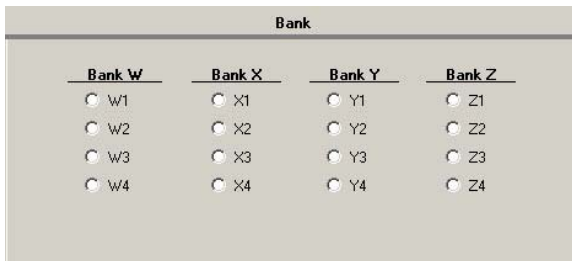

FIG. 63 Bank Enable options
2. Click **Bank Enable**. The Bank Enable options appear (FIG. 63).